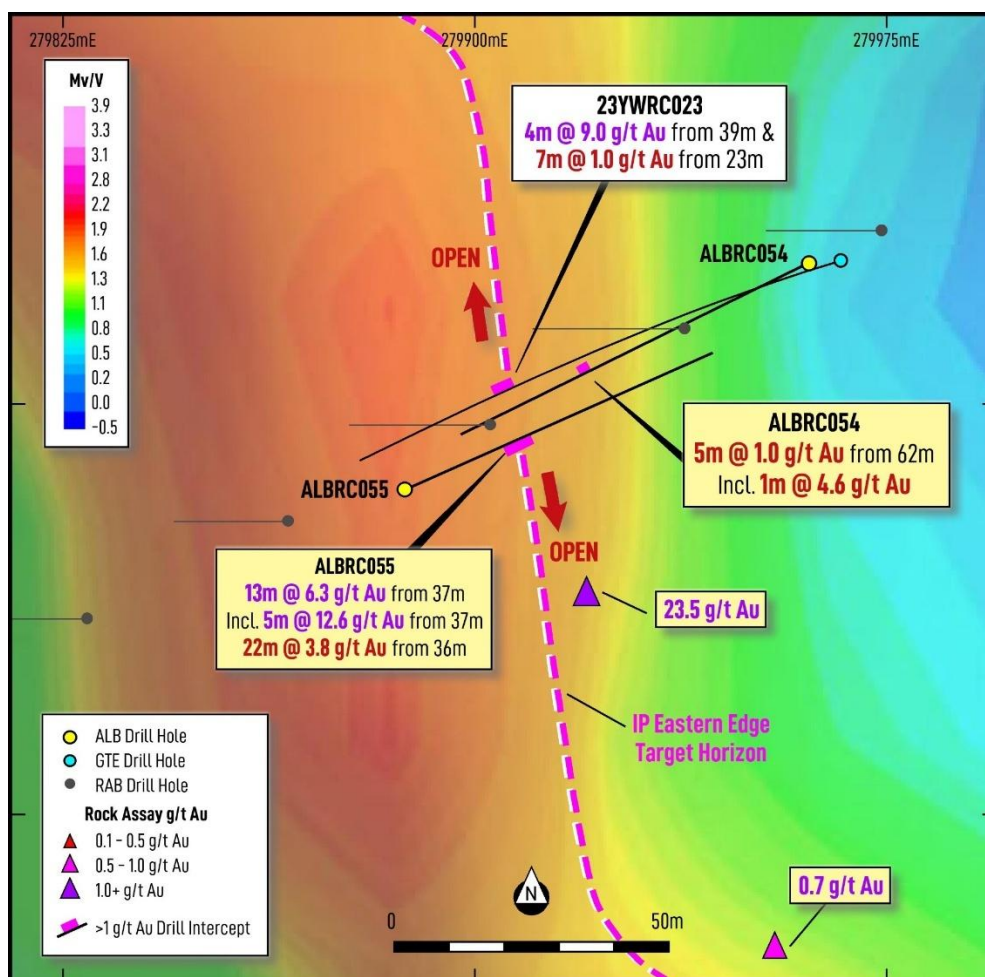

Figure 1: Plan map of the GAIP Chargeability image showing the location of new drilling by Albion and location of the “Eastern IP edge” target horizon
The standout result came from ALBRC055, drilled to the east (Figure 1), which intersected the high-grade structure:
Hole ALBRC054, drilled to the west, did not intersect the high-grade structure but returned a separate zone of mineralisation to the east (Figure 1):
- The results support a **southern extension of high-grade mineralisation** previously intersected (4m at 9.0 g/t Au) by 15 metres and remains **open north, south and at depth** (Figure 1); and
- The high-grade mineralisation appears coincident with the eastern edge of a subtle chargeability anomaly which has defined an extensive “IP Target Edge” that forms a classic “sigmoidal” target zone (Figure 1) typical of major gold forming deposits. This will be the target horizon for follow-up drilling.